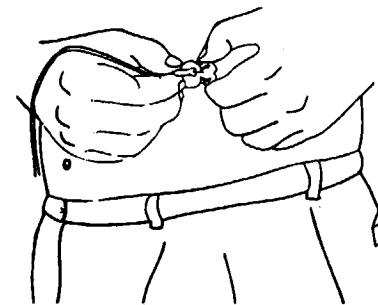

FIGURE 10: Remove the Introducer Needle
- Step 9. While holding onto the Sensor Assembly with one hand, remove the Introducer Needle by pulling the Needle Hub gently away from the Sensor Assembly. Dispose of the Introducer Needle properly (Figure 10).